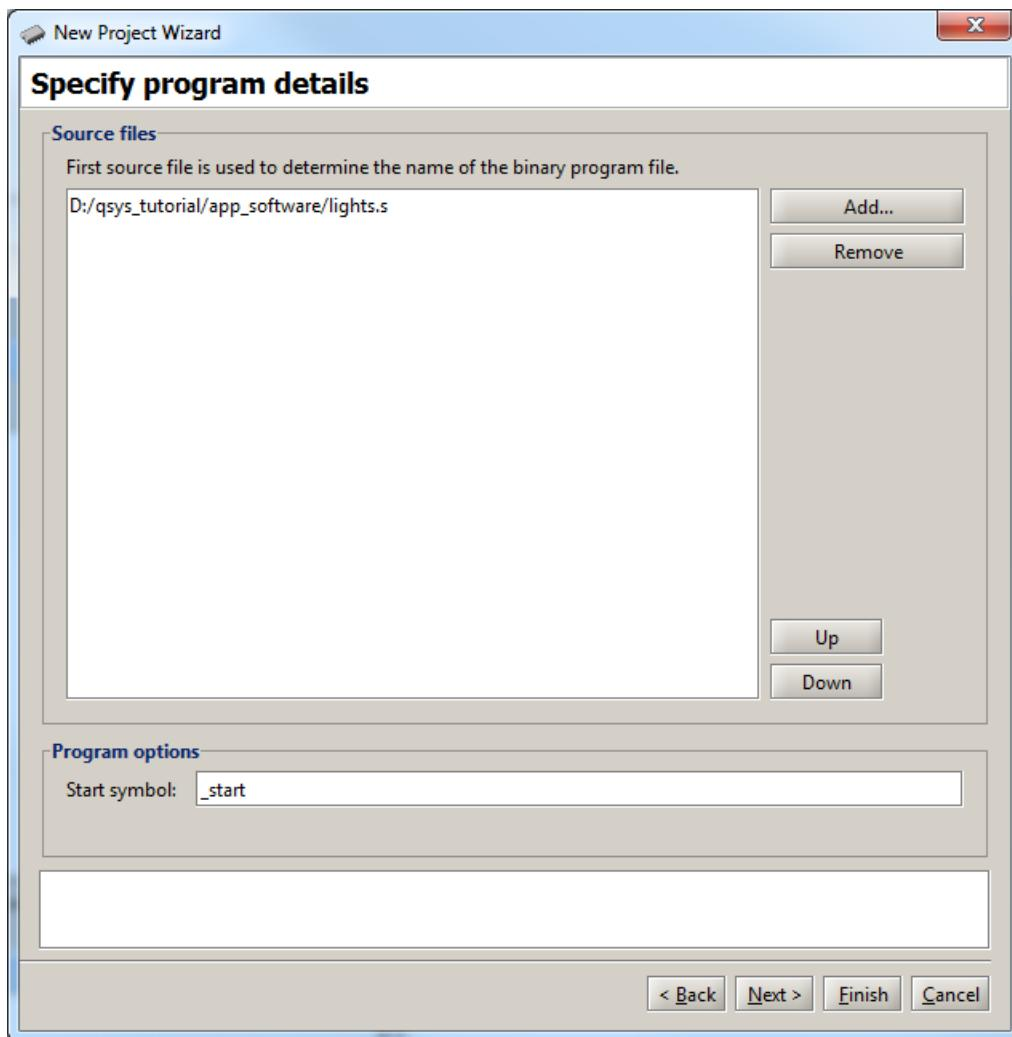

Figure 30. Specify the application program to use.
5. If you wish to use a Nios II assembly-language application program, select **Assembly Program** as the program type from the drop-down menu. If you wish to use a C-language program, select **C Program**. Click **Next**, leading to Figure 30.
6. Click **Add...** to display a file selection window and choose the *lights.s* file, or *lights.c* for a C program, and click **Select**. We placed the application-software files in the directory *qsys_tutorial\app_software*. Upon returning to the window in Figure 30, click **Next**.